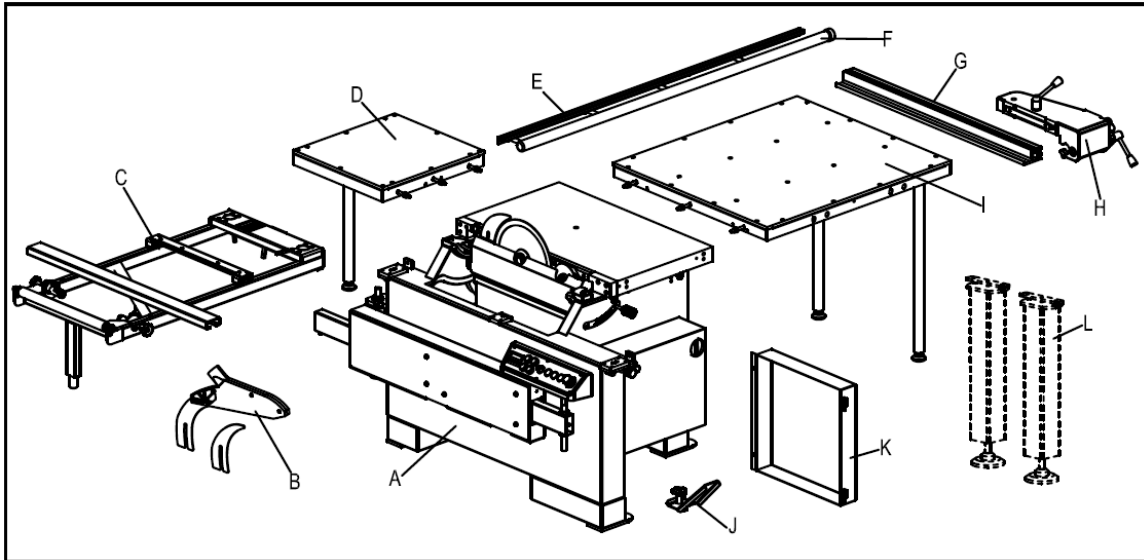

Fig.8
----Machine Box Contents: (Fig.8)